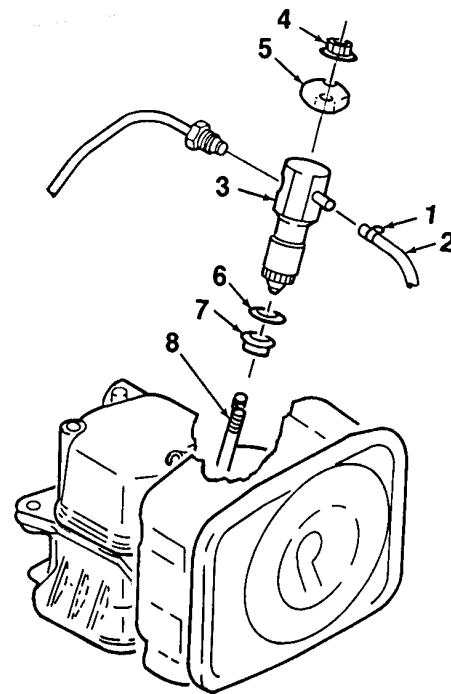

Figure 3-4. Fuel Injector Removal
1. Disconnect fuel supply line from fuel injector (3, Figure 3-4). Disconnect fuel return hose (2) by loosening clamp (1).
2. Remove two nuts (4) and nozzle retainer (5) from studs (8).
1. Inspect fuel injector (3, Figure 3-4) for obvious damage. Check for clogged or dirty injector nozzle. Replace injector if nozzle is damaged.
2. Inspect return fuel hose (2) for cuts, tears, kinks, or crimping. Replace hose if damaged.
1. Install new gasket (7, Figure 3-4) into cylinder head injector port. Ensure proper seating. Install fuel spacer (6).